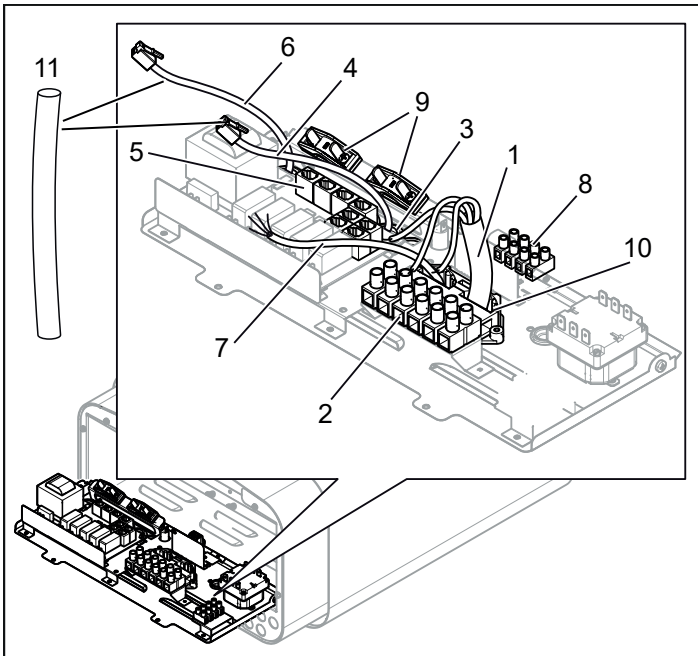
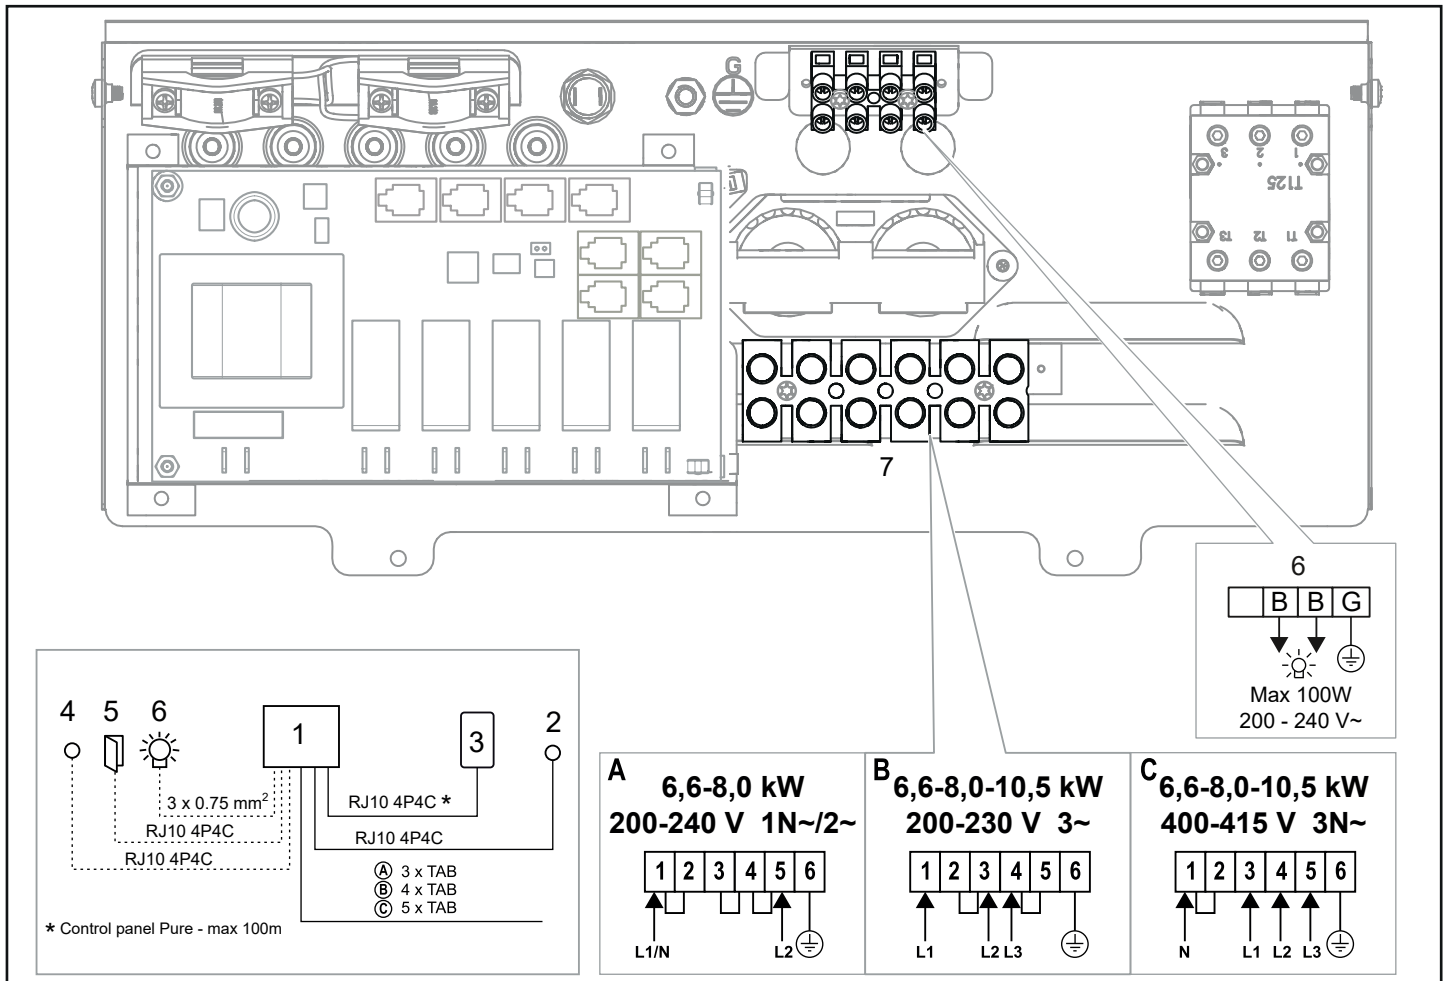
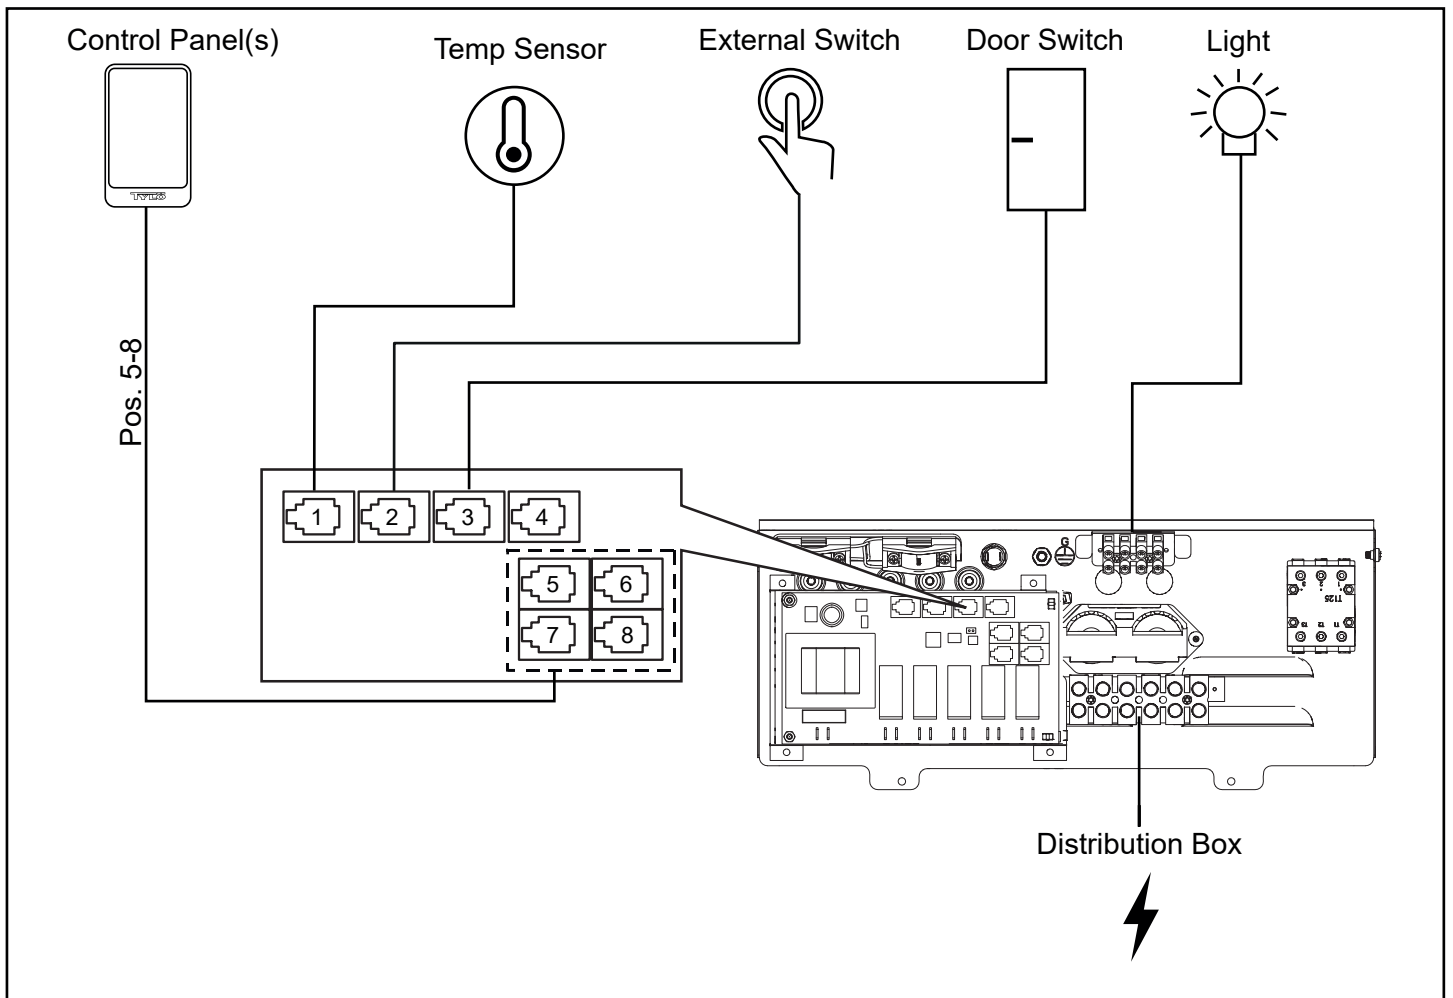

Figure 9: Circuit board
Figure 17: Wiring diagram
Figure 18. Schematic diagram of installation Sense Pure
3. Connect the electrical cable (see Figure 9) according to the wiring diagram (see Figure 17).
4. Run the cables for the control panel and the temperature sensor through the cable grommets (see Figure 9). Connect the control panel cable to one of the four RS485 contacts (positions 5-8) (see Figure 18).
5. Connect the sensor cable to the NTC contact on the circuit board (position 1) (see Figure 18).
6. Connect the light cable (if relevant), see Figure 9, according to the wiring diagram Figure 17.
Contact Tylö Customer Service before connecting to voltages or numbers of phases that are not listed in the wiring diagram Figure 17.